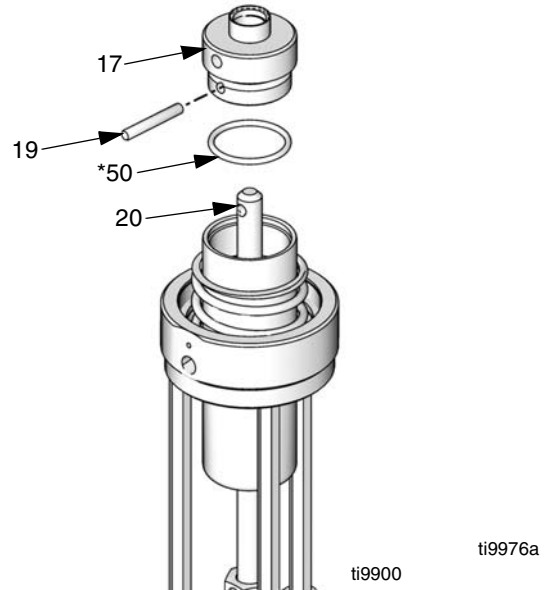

FIG. 15
- Series B air motors only:* Remove dowel pin (19) and take piston cap (17) off transfer shaft (20). Remove o-ring (50*) from piston cap. Inspect all parts for damage. See FIG. 15.